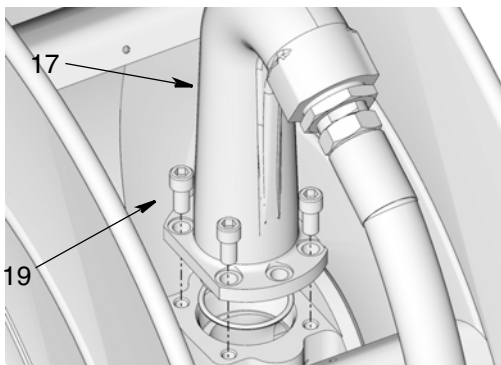

FIG. 15
- d. Turn the brake knob (41) to adjust brake tension as needed to prevent hose from unwinding too fast.
8. Remove bolts (19) and outlet (17) from spool (FIG. 15).